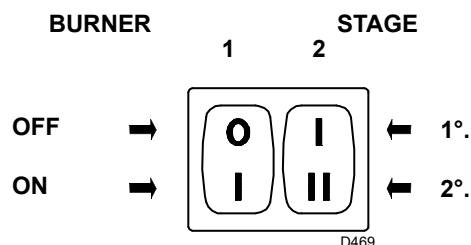
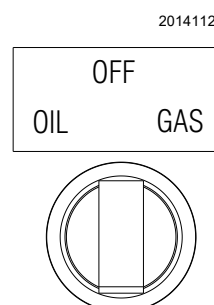

Fig. 33
Fig. 34
Keep the burner operating at 1st stage by setting the switch 2)(Fig. 33) to the 1st stage position. The fan damper can be adjusted by operating the orange level of the servomotor ("Servomotor adjustment" on page 33).
Turn switch 2)(Fig. 33) to the 2nd stage position. The fan damper can be adjusted by operating the red level of the servomotor ,("Servomotor adjustment" on page 33).
Start the burner by closing the remote controls, with the switch 1)(Fig. 33) in the "ON" position and with the fuel selector switch set to "OIL" (Fig. 34).
The pump can be considered to be primed when the light oil starts coming out of the screw 3)(Fig. 23 on page 24). Stop the burner: set switch 1)(Fig. 33) to "OFF" and tighten the screw 3).
- switch 1)(Fig. 33 on page 30) in "**BURNER ON**" position;
- switch 2)(Fig. 33 on page 30) in "**1st STAGE**" position;
Turn switch 2)(Fig. 33 on page 30) to the 2nd stage position: the servomotor will open the air damper on the value previously set for the light oil and will control the opening of the 2nd stage VR2 gas valve.
Turn switch 2)(Fig. 33 on page 30) to the 1st stage position: the servomotor will close the air damper on the value previously set for the light oil and will control the opening of the 1st stage VR1 gas valve.